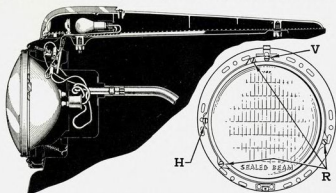

Fig. 29—Section Through Headlamp and Parking Light.
2. Loosen but do not remove the three screws holding the retaining ring "R" Fig. 29. Do not disturb the aiming screws at the top and on the left side of the unit.